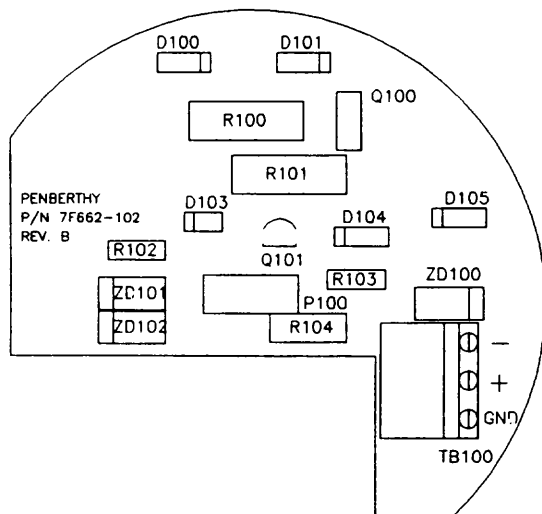

Figure 1
- 1.) Connect the positive (+) lead from your loop power supply to TB100 (+) and the negative (-) lead to TB100 (-). TB100 is located on the top circuit board. (see Figure 1)
- 2.) Attach the positive (+) lead from your loop power supply to TB100 (+) and the negative (-) lead to TB100 (-). TB100 is located on the top circuit board. (see Figure 1)
- 3.) Disconnect the positive (+) loop wire from TB100. Connect this wire to the positive lead of a milliammeter. Connect the negative lead of your milliammeter to TB100 (+). (Figure 1)
- 13.) Disconnect the power. Remove the voltmeter and the milliammeter from the unit. Reconnect the positive (+) lead from the power supply to TB100 (+). (Figure 1)